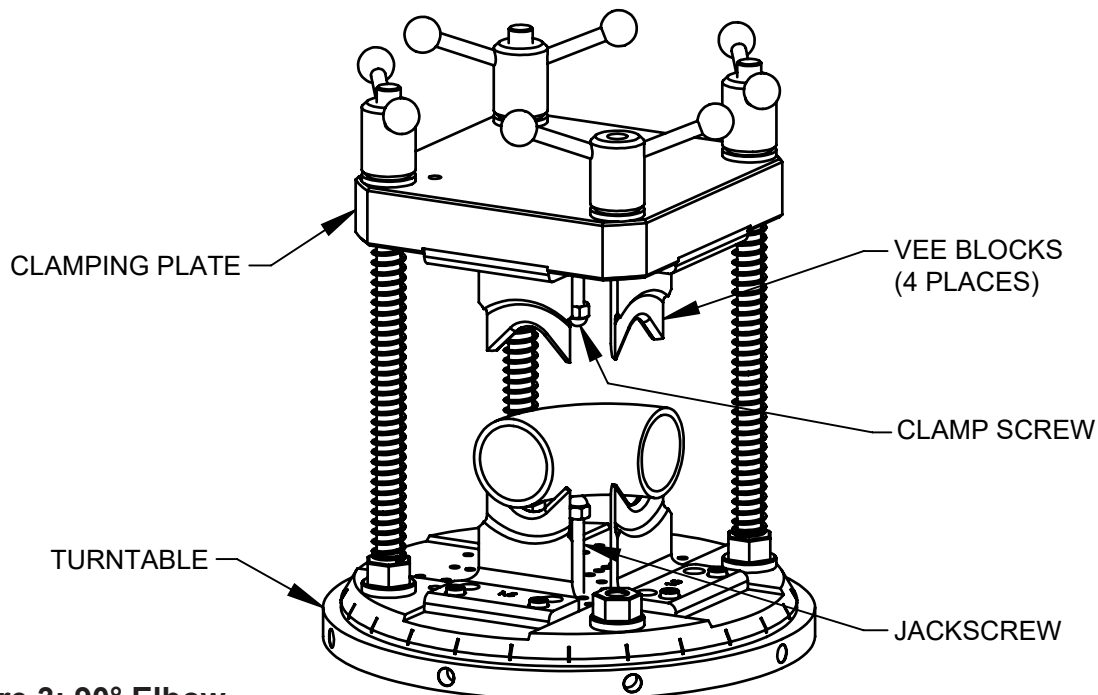

Figure 3: 90° Elbow
1. Set the Turntable to a detent position, engage the Index Shaft, and lock the Turntable down four (4) places.
2. Attach the upper and lower Vee-Blocks by holding the elbow to be prepped over the Lower Turntable Plate in the approximate position (refer to Fig. 3).